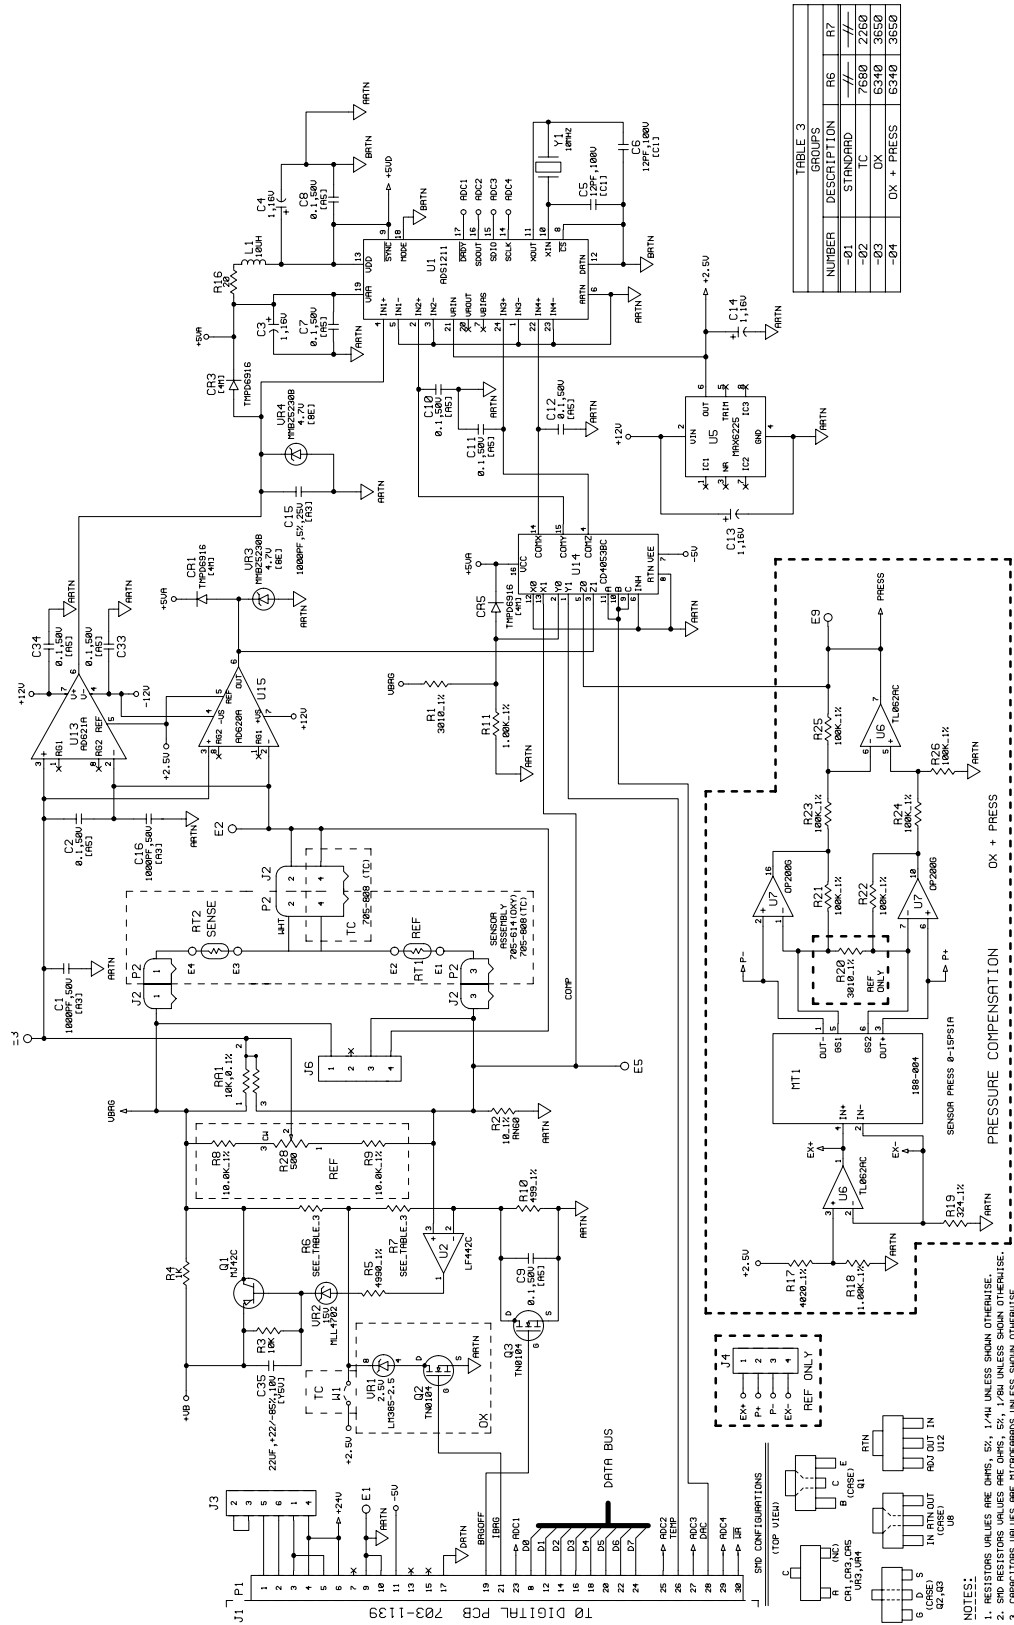

Figure 70: Analog PCB schematic (ref. dwg #700-1276, rev. F, sh. 1)
- Figure 70, "Analog PCB Schematic (ref. dwg #700-1276, rev. F, sh. 1)" on page 55